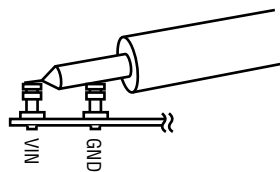

Figure 2. Measuring Input or Output Ripple
**NOTE.** When measuring the input or output voltage ripple, care must be taken to avoid a long ground lead on the oscilloscope probe. Measure the input or output voltage ripple by touching the probe tip directly across the  $V_{IN}$  or  $V_{OUT}$  and GND terminals. See Figure 2 for proper scope probe technique.
6. With  $V_{IN}$  at least 1V above  $V_{OUT}$ , increase the load on  $V_{OUT}$  from 0mA to 50mA and observe the input current. The output ripple may also be observed using an oscilloscope with the probe connected as shown in Figure 2.
NOTE. When measuring the input or output voltage ripple, care must be taken to avoid a long ground lead on the oscilloscope probe. Measure the input or output voltage ripple by touching the probe tip directly across the  $V_{IN}$  or  $V_{OUT}$  and GND terminals. See Figure 2× for proper scope probe technique.
6. Turn on and set the input current source to 4mA. Observe the voltage across the  $V_{IN}$  and GND terminals and across the  $V_{OUT}$  and GND terminals. The output ripple may also be observed using an oscilloscope with the probe connected as shown in Figure 2.